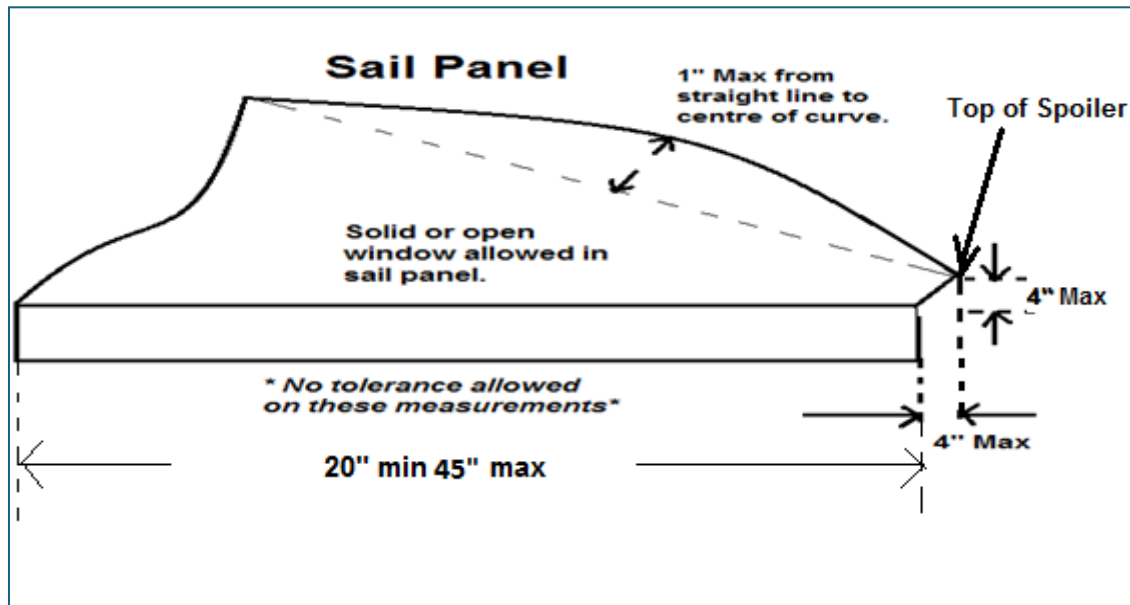

Figure 7
10.3 Sail panel must not exceed 1" (one) inch above or 3" (three) below an imaginary straight line from the rear edge of roof panel to 4" above the top edge of the back of the rear quarter panel (top of spoiler if used). Measurements are taken looking from the side elevation (*Figure 7 & 8*).
- 13.1** A one piece, aluminium or Lexan spoiler with a maximum height of 4 inches above the back of the rear deck will be permitted. The top of the spoiler may extend past the end of the rear deck by 4" *(Figure 7 & 8).*